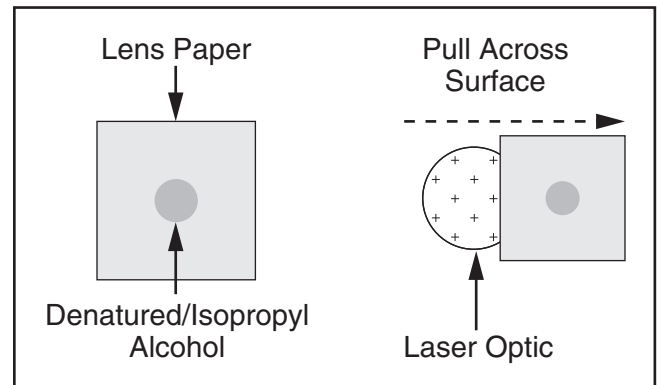

Figure 69. Pulling lens paper across surface.
4. Grab edge of paper and slowly pull across lens/mirror surface (see **Figure 69**). Allow surface to air dry.